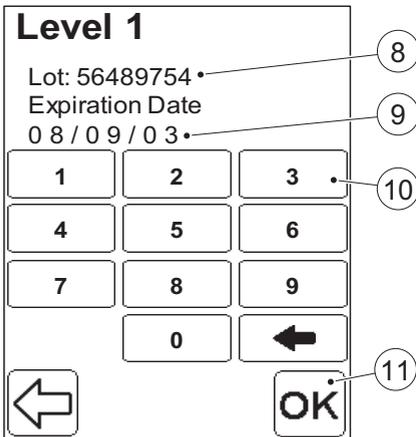

FIGURE 8-19
- j) Enter the Lot No. either directly on the Display via the Text mode and Numeric mode buttons, or with the Barcode Scanner via the Barcode Scanner button. When finished, *FIGURE 8-19* will be displayed.